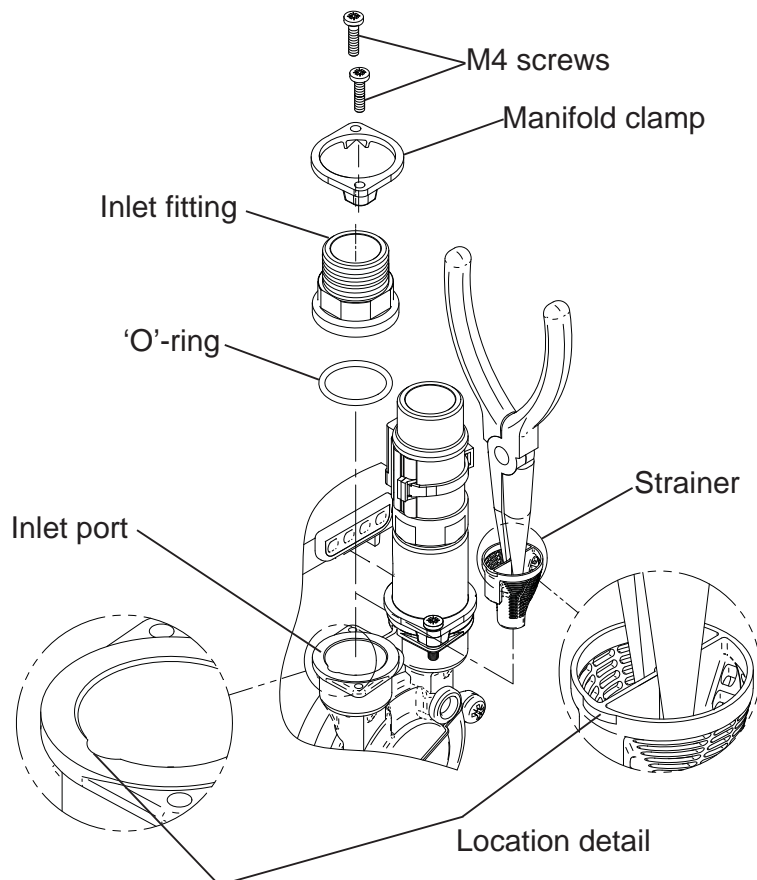

Fig. 14
The strainer is located in the inlet assembly of the pump casing (see Fig. 14) and is removed as follows:-
- d) Remove M4 screws (2 off) from inlet assembly, lift brass inlet fitting (with 'O'-ring) and clamp away from pump casing (Fig. 14).
- e) Remove strainer with long nose pliers noting location lug position upon removal (Fig. 14) and clean thoroughly.
- f) Refit strainer taking care to position lug in body inlet port location slot (Fig. 14) and re-assemble pipework. Tighten M4 clamp screws to 1.5 Nm torque.